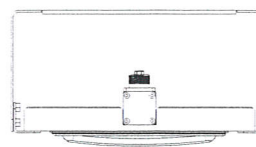

Figure 5
- ☞ The mount bracket is for surface mounting to ceiling (Figure 5).